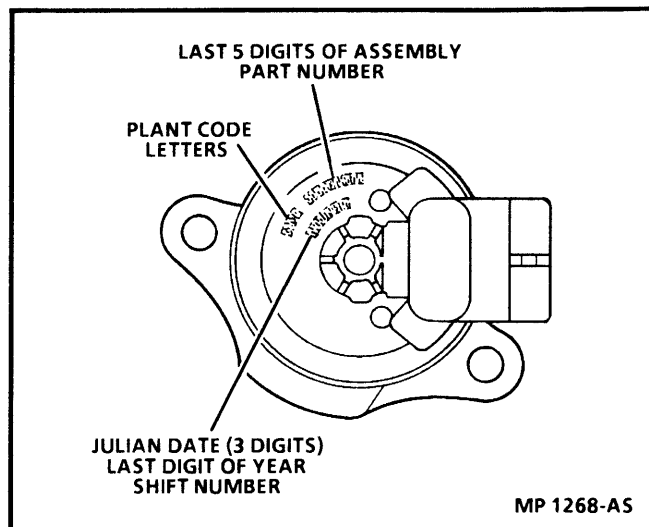

Figure 9-2 - Linear EGR Valve Identification Markings
4. Linear EGR valves look like a small motor. Refer to Figures 9-2 and 9-3.